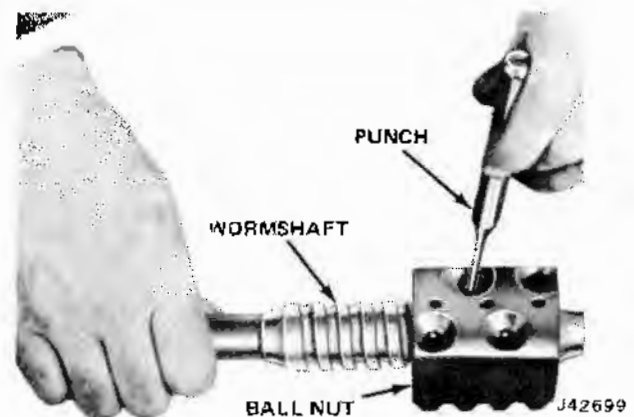

Fig. 11-39 Filling Ball Circuits
(1) Position ball nut on worm shaft so deep side of teeth will be toward side cover when shaft is installed in housing.
(2) Install 20 balls in each circuit. Rock worm shaft back and forth to aid in installation. Use a punch to install the balls (fig. 11-39)